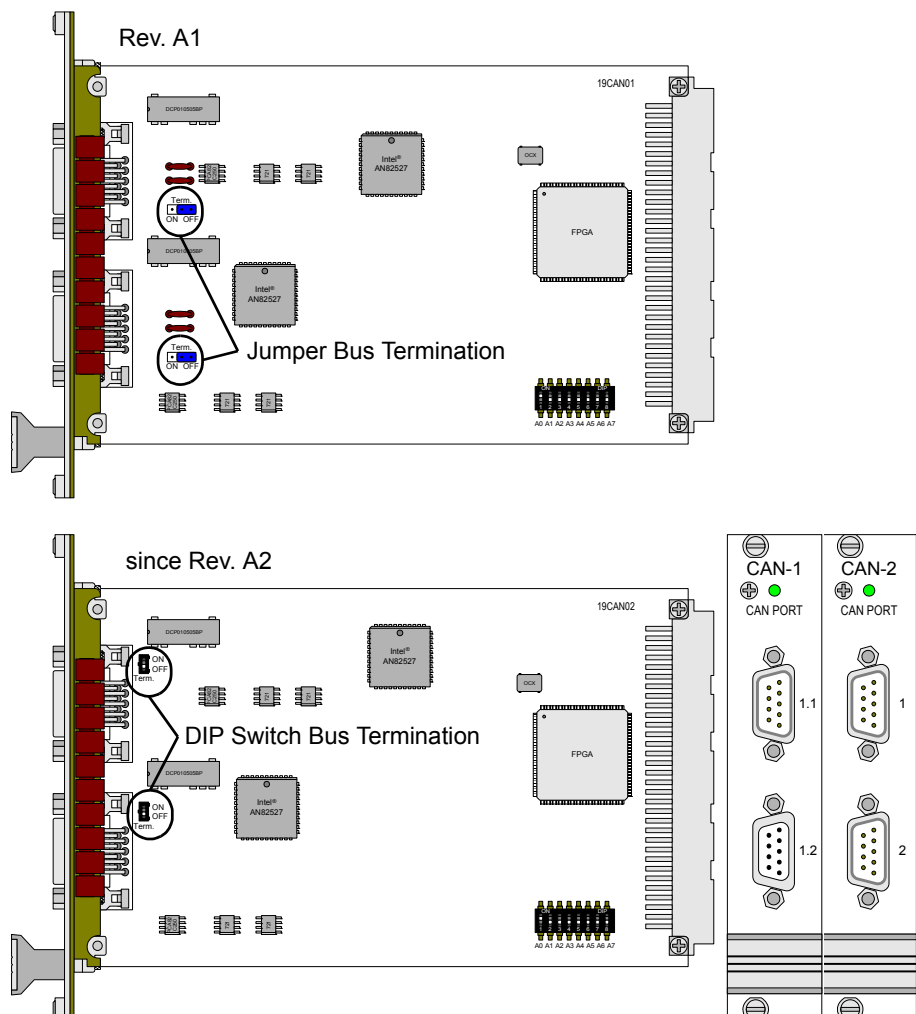

Fig. 277 – Pro-CAN-1/-2: PCB and front panels
If the CAN module functions as the physical termination of a high-speed CAN bus, it must be terminated with a 120Ω resistor (only the first or the last CAN node). If a termination is necessary, move the DIP switch (Rev. A2, see fig. 277) upward; when using the module revision A1 set the jumper to the left position (ON). CAN nodes, which are not positioned in an end-location, must not be terminated.